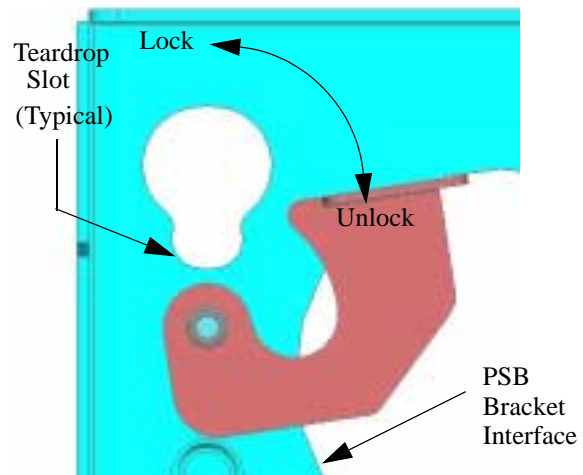

Figure 6. Locking Device
1. Make sure power is not supplied (turned off) to the display and the locking device is in the unlocked (down) position (see Figure 6) before attempting to mount the display.
4. Secure the mounting bracket to the PNR by completely engaging the locking device (see Figure 6).